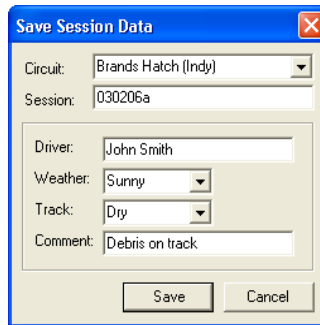

Figure 16 - Save Session Data Dialog
3. When the data has been successfully transferred the Save Session Data dialog (Figure 16) appears. Podium will populate the Session field with a unique identifier for this session based on the current date. Other fields will be set to the values used previously.